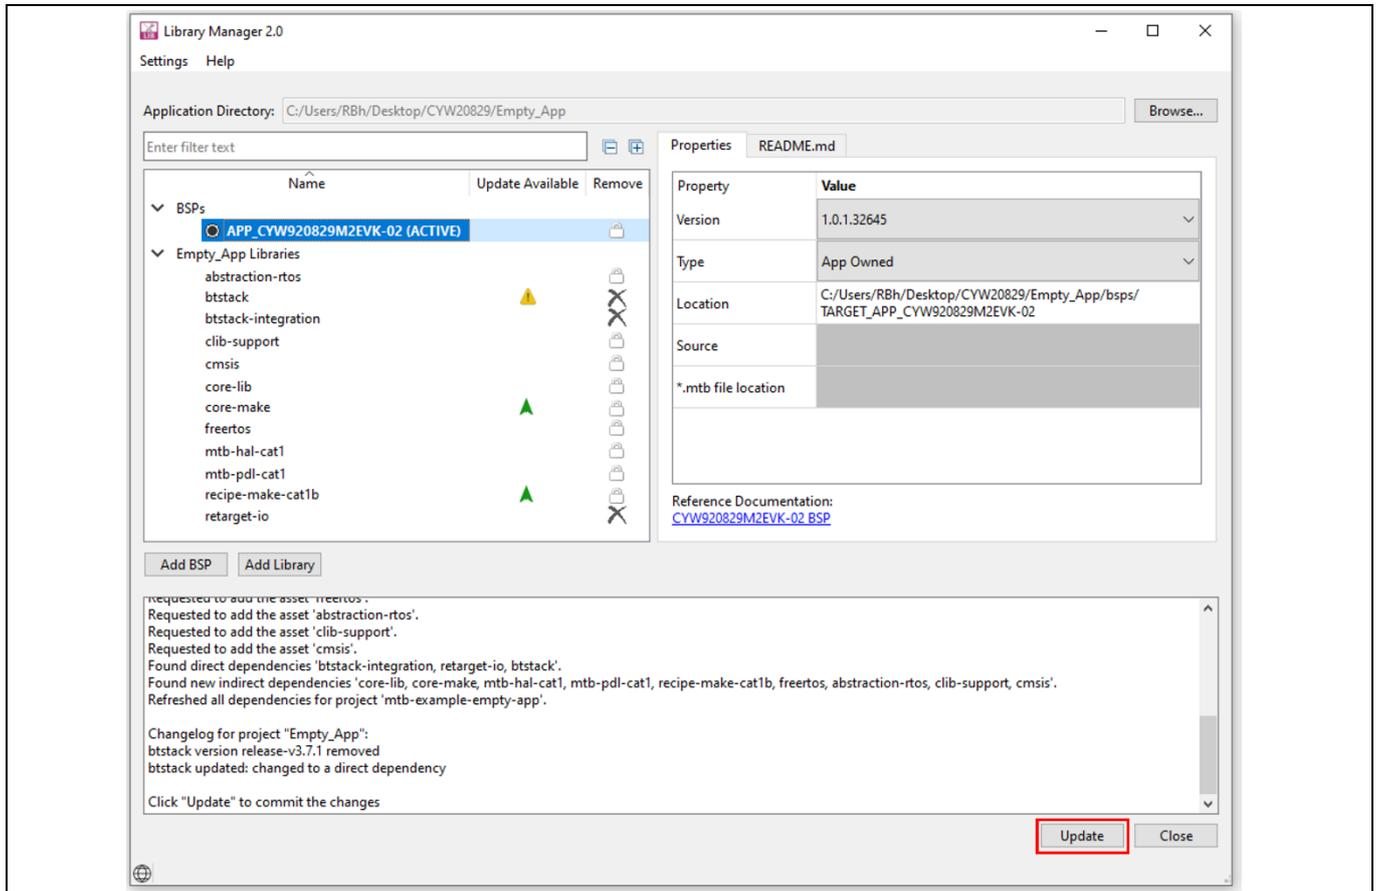

Figure 18 Libraries for Bluetooth® LE Find Me code example
- You have selected all the required libraries. To add them to the project, click **OK** and then **Update**. Figure 18 shows all the libraries selected and their dependency libraries. The files necessary to use the retarget-io middleware are added in the `mtb_shared > retarget_io` folder, and the `.mtb` file is added to the `deps` folder. Similarly, you can find other libraries under the respective folders in the `mtb_shared` folder.